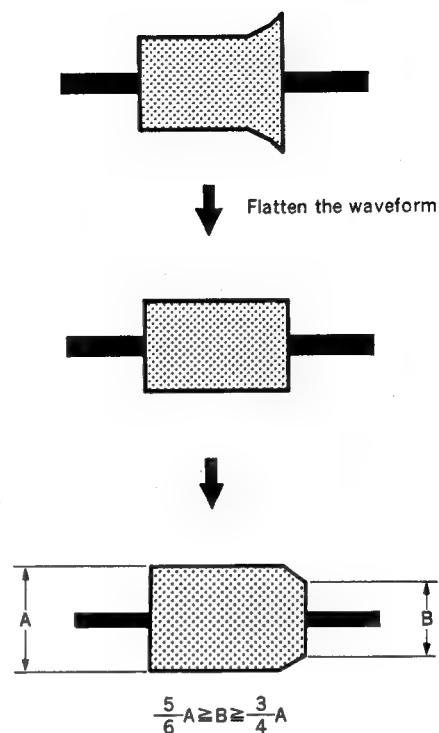
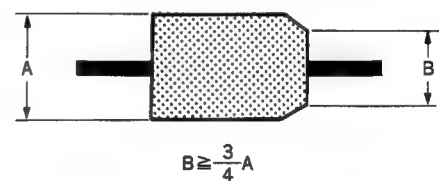

Fig. 6
Fig. 7
2. Play back the cassette tape, check that the RF waveform (CH 1 and CH 2) at the exit side meet the specification as shown in the fig.7. If not, adjust the height of No.4 Guide again within the specification as shown in the fig.6. Perform the steps 1 and 2 and check that it meet the specification as shown in the fig.7.
- (9) After adjustment, perform the Check After Adjustment referring to Section 6-6.
- (10) Smear locking compound to the lock screw, zenith screw and adjustment nuts of No.4 Guide and No.5 Guide.